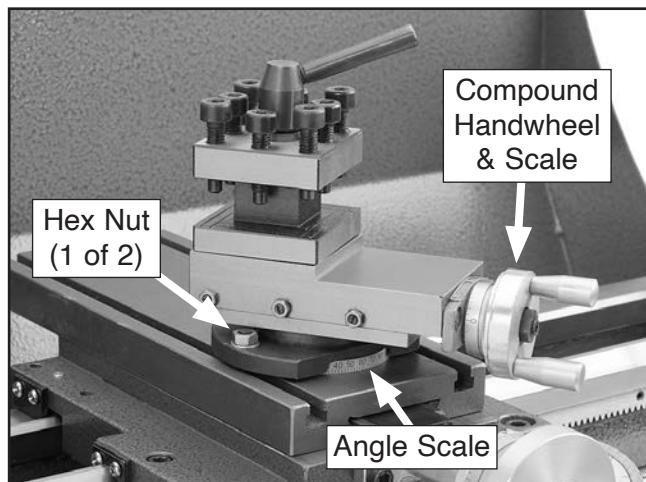

Figure 38. Compound slide controls.
1. Loosen the hex nuts on either side of the compound slide (see Figure 38).